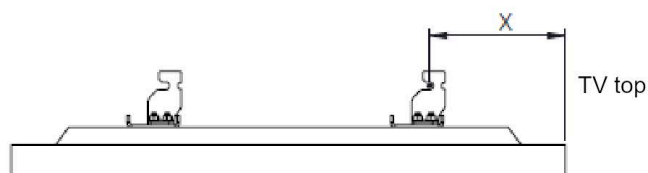

Fig. 3.
2.2. Then measure the distance X shown in Fig.3